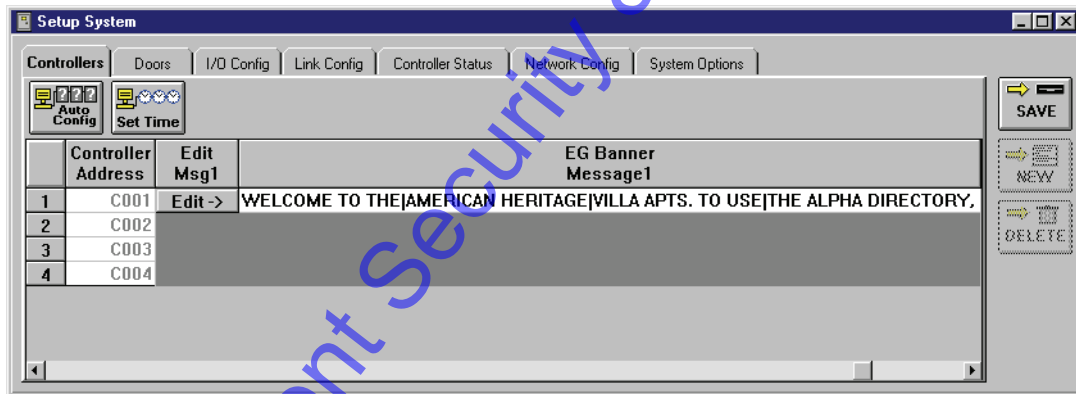

Figure 10-8: Banner Message1 Column
7. Once you are satisfied with the message, click on the **Done** button. The message will appear in the EG Banner Message1 column (see Figure 10-8).